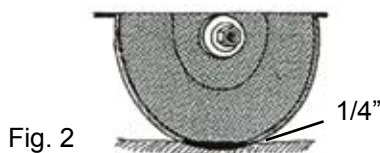

Fig. 2
- Fill the coolant tank with lapidary cutting oil until coolant covers approximately 1/4" of the blade rim (Fig. 2).